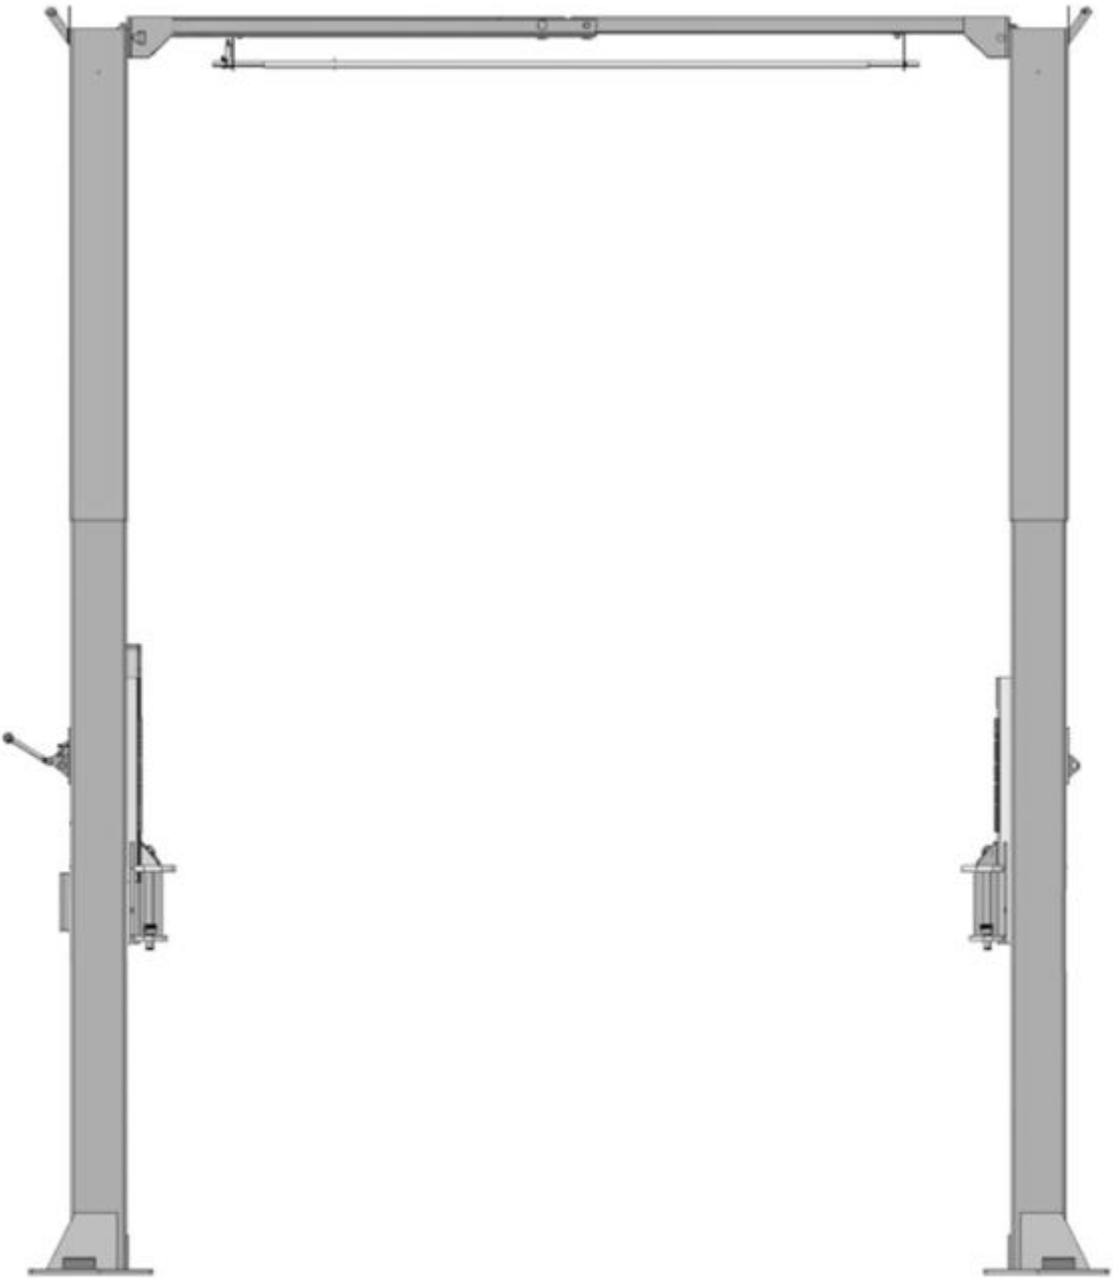

Fig. 24
J. Lift the carriages up and make them be locked at the same level (See Fig. 24).